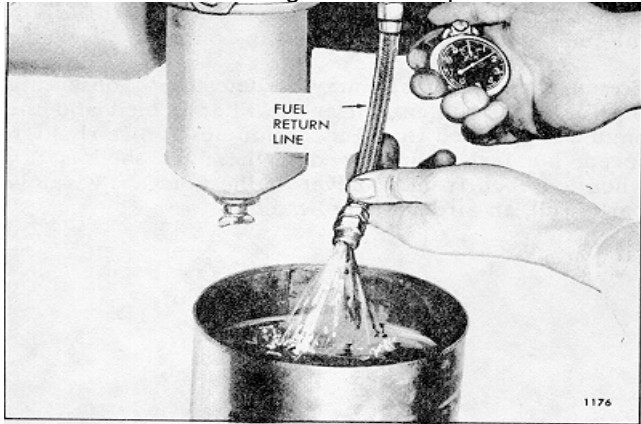

Fig. 7 - Measuring Fuel Flow
1. Disconnect the fuel return hose from the fitting at the fuel tank and hold the open end in a convenient receptacle (Fig. 7).